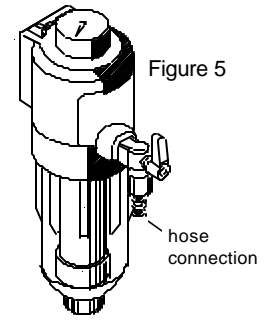

Figure 5
- ✍ Connect a drain hose to the hose connection or position a container under the drain valve (figure 5).